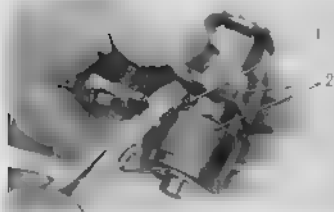

Fig. 3.98 Removing the gear shift fork
8. Remove the gear shift guide pin clip ① and pull out the gear shift fork guide pin. The gear shift fork ② can be disassembled from the gear shift drum. (Fig. 3.98)